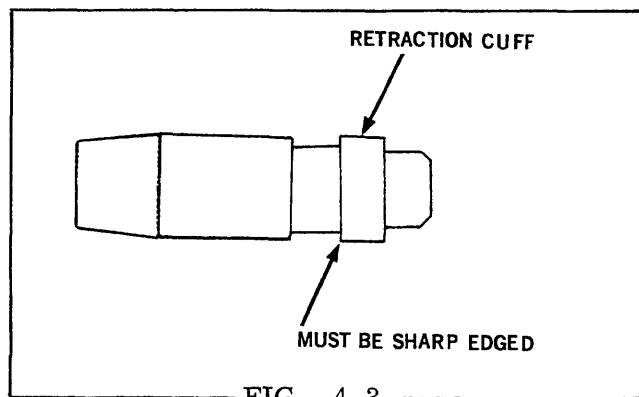

FIG. 4.3
4. Delivery Valve - Inspect delivery valve retraction cuff for chipping or erosion of edges (Fig. 4.3).